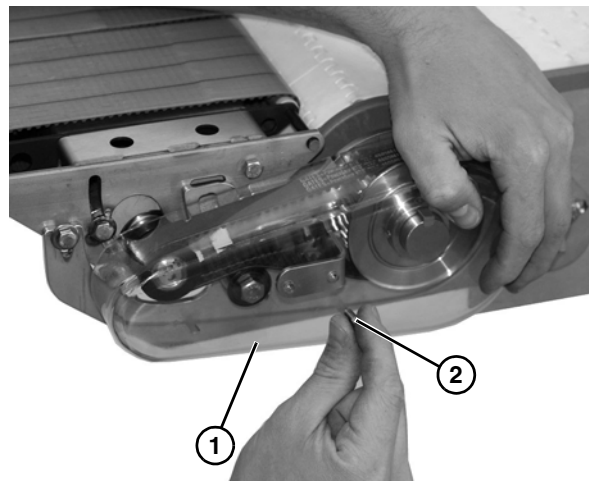

Figure 21
19. Install cover (**Figure 21, item 1**) with two (2) screws (**Figure 21, item 2**). Tighten screws to 35 in-lb (4 Nm).